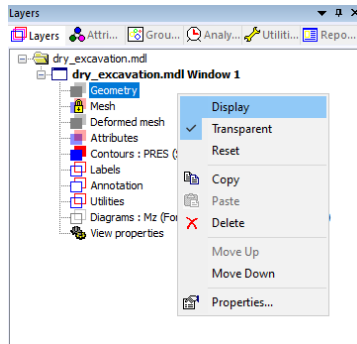

Figure 68: Hiding Geometry layer
- In the Layers  treeview, right-click on **Geometry** and untick **Display** (figure 68).